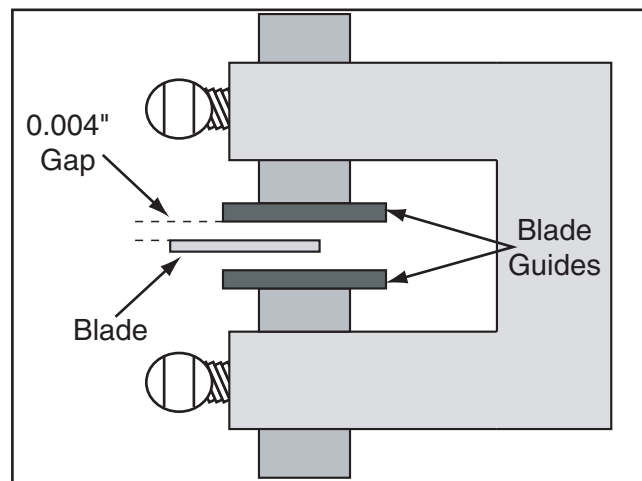

Figure 49. Correct gap between guide guides and blade.
3. By hand, adjust the distance of the guides approximately 0.004" from the sides of the blade (see **Figure 49**), then re-tighten the thumb screws to secure the setting.